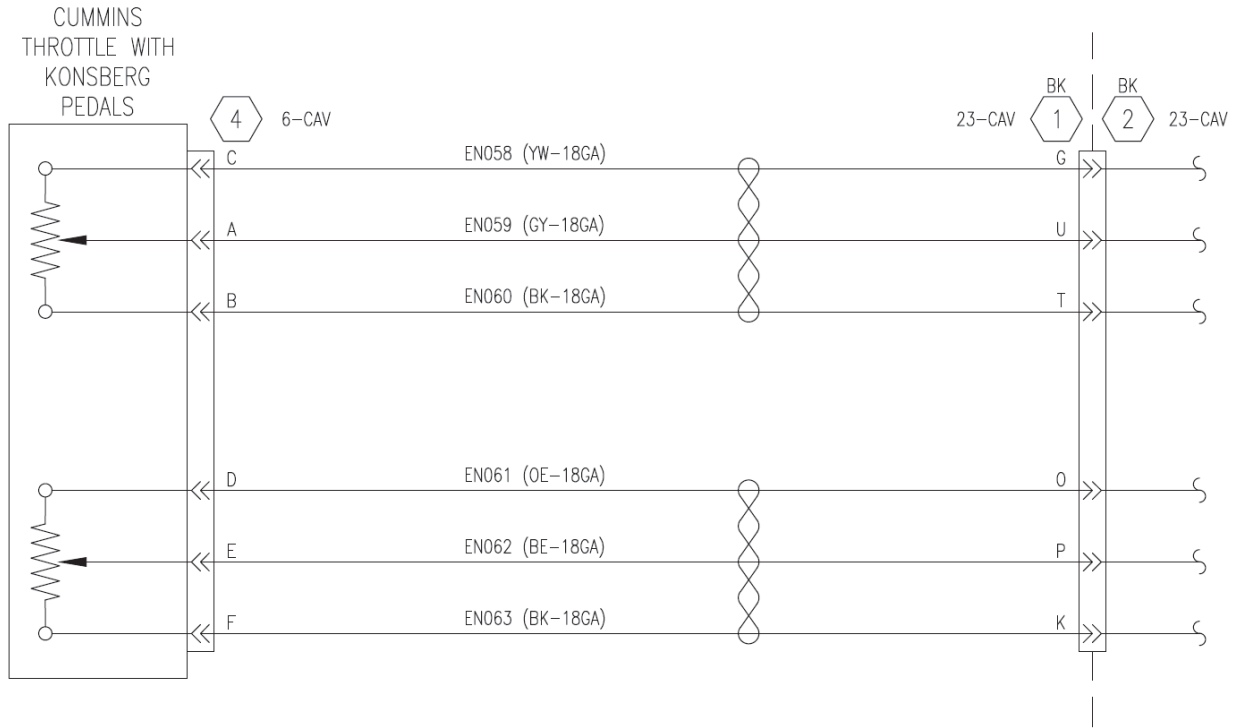

FIG. 8-1
1. Identify and disconnect throttle pedal connector, Item **④** in FIG. 8-1, from throttle assembly. Pull back loom 12 inches over wiring terminated into throttle pedal connector. Verify wiring consists of 6 discreet wires (untwisted) then go to step 2. If wiring consists of 2 twisted triplets (refer to FIG. 8-1), replace loom over wiring and reconnect throttle pedal connector, Item **④**. No further action is required.
3. Connect new throttle pedal connector, Item **④**, of new 3995-GG5-002 overlay harness into throttle assembly. Refer to FIG. 8-1.
5. Locate and disconnect main chassis harness interconnect, Item **①**, from forward electrical compartment disconnect. Refer to FIG. 8-1.
- Insert new circuits from new overlay harness into existing main chassis harness interconnect connector Item **1** . Refer to FIG. 7-1. Each wire is tagged with a label depicting which cavity it belongs in. Refer to FIG. 8-1. Note that the wiring/pin out does not change.
- Re-connect main chassis harness interconnect connector, Item **1** , to forward electrical compartment disconnect. Refer to FIG. 8-1.